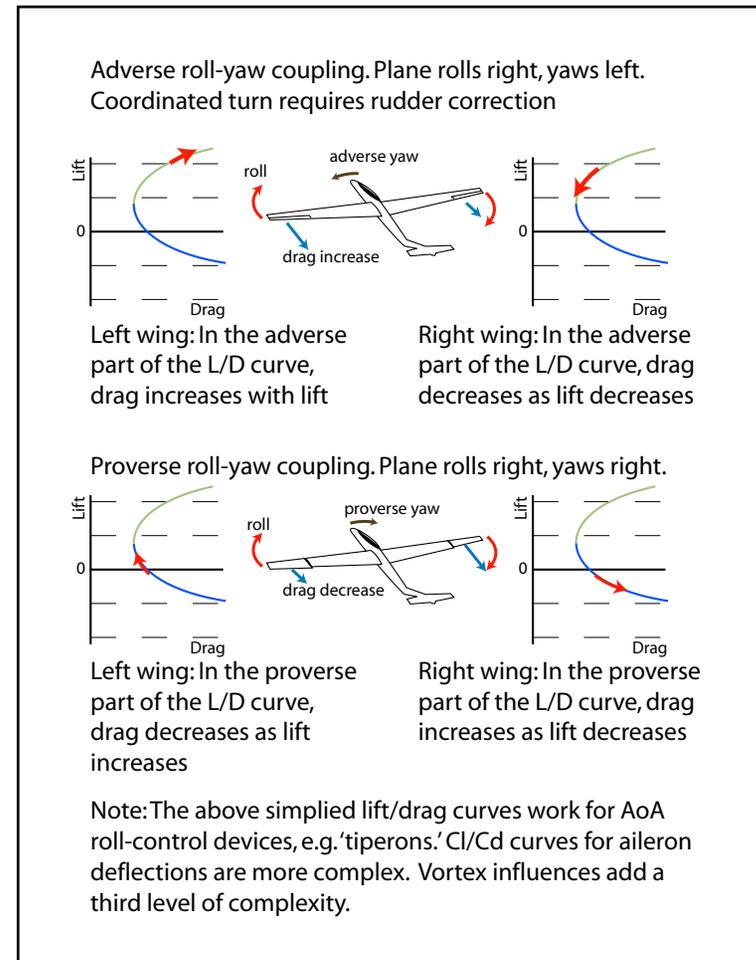

Figure 15: Roll-yaw coupling
See Figures 15 and 16
- 2: The effects of AoA (angle-of-attack) roll-control devices (tiperons, wingers, and pitcherons, and AoA wing-warping). AoA devices *slide* L/D along the lift/drag curve. This is a two-dimensional, airfoil sectional analysis in which freestream velocities are assumed parallel to flight path. See figure 15